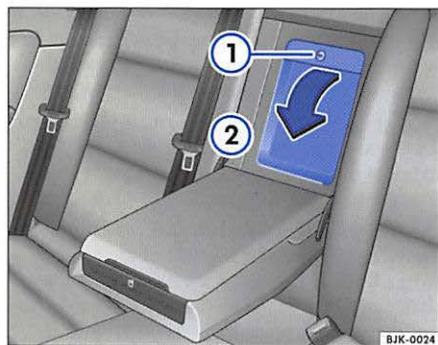

Fig. 51 Opening from the inside
- Unlock the release handle ⇒fig. 51 ① located in the plastic cover behind the rear armrest by turning the master key to the  position.
- Grasp the handle and lower the cover into the vehicle ②. The plastic cover is integrated to the center rear armrest.